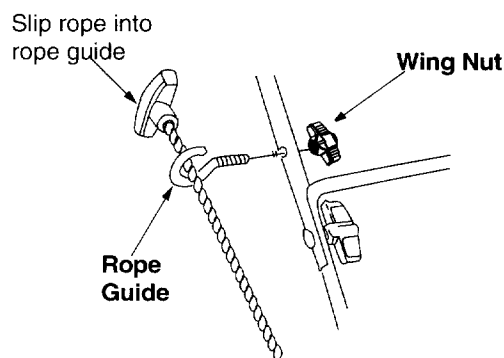

Figure 3
- The rope guide is attached to the right side of upper handle. Loosen the wing nut which secures the rope guide. See Figure 3.
- With spark plug wire disconnected and grounded, hold the blade control handle against the upper handle, and pull the starter rope out of the engine. Release blade control handle. Slip the rope into the rope guide. Tighten the wing nut. See Figure 3.